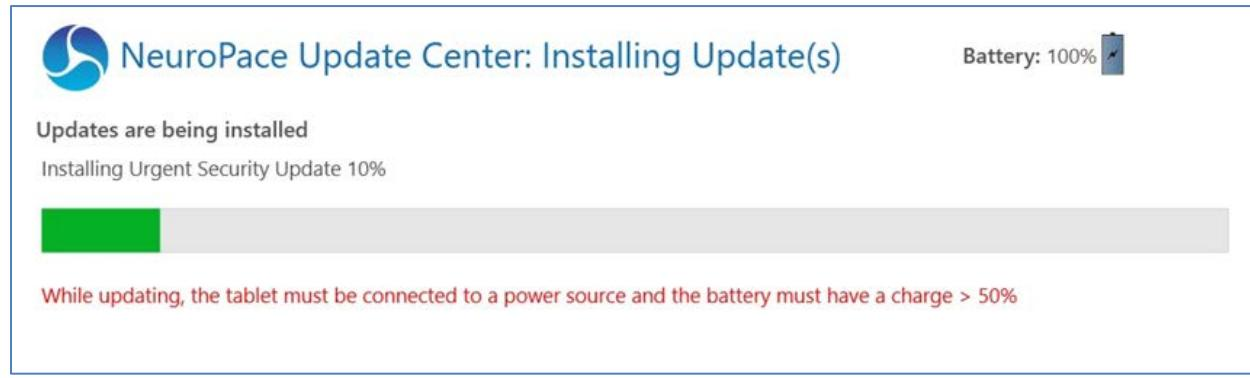

Figure 3 Installing Updates Progress
1. Select the fields to enter the username and password and then select **Log IN**. Login completes and the Start screen opens (**Figure 3**).
2. Place the wand within approximately 1 inch of the neurostimulator, concave side of wand facing the neurostimulator. Then select **INTERROGATE** from the Start screen (left tile—see **Figure 3**). You can also select the green **INTERROGATE** tile at upper right in the **HOME** screen (see **Figure 6**.) The wand must be held in place over the neurostimulator for interrogation to succeed.